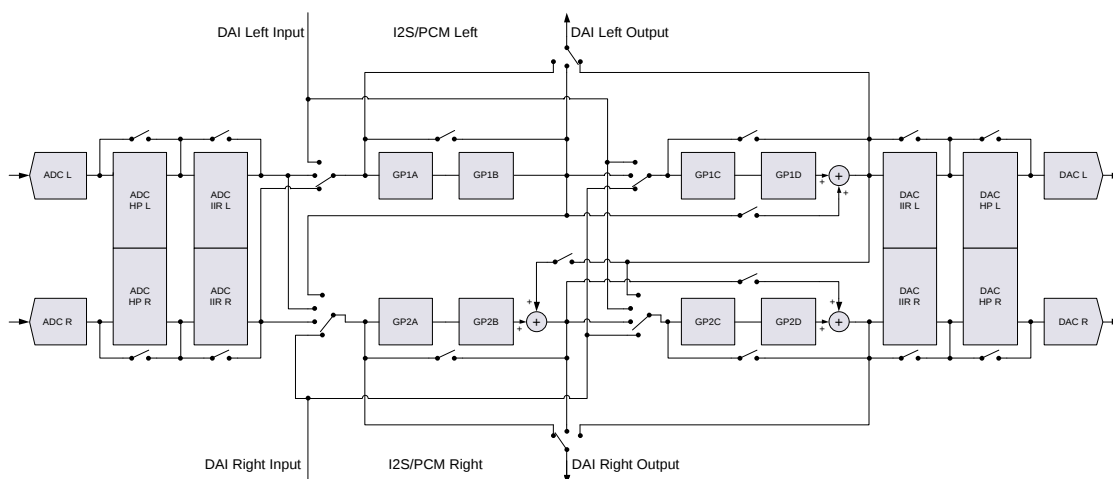

Figure 15: Digital Signal Processing Engine (Simplified Block Diagram)
A digital high pass filter for each DAC channel is implemented (configurable by control DAC_HPF_F0 (address 0x14, Table 56) that can be enabled via control DAC_HPF_EN (address 0x14, Table 56, see blocks 'DAC HP' in Figure 15). After Reset, the high pass filters for both channels are enabled by default.
The digital signal processing engine includes a configurable audio processor that offers flexible routing and extensive audio enhancement and effects. Linear phase FIR filters perform the interpolation and decimation for the required sigma-delta sample rates. Configurable high-pass filtering (optionally enabled) removes any signal DC offset (see blocks 'ADC HP' and 'DAC HP' in Figure 15) and offers 5-band equalisation during recording and sound playback.
Alternatively it can provide dedicated voice band filtering at sample rates ≤ 16 kHz (see blocks 'ADC IIR' and 'DAC IIR' in Figure 15).
An additional general purpose (GP) filter engine offers up to eight second-order biquad filter stages with configurable 16-bit coefficients, and supports flexible digital audio routing and mixing arrangements. Figure 15 shows some possible routings (a subset of the available settings) for filter blocks GP1A to GP2D with the related control registers. Typical use cases with example configurations are explained in the section 8.3.
To allow user-specific sound control, the recording path includes a programmable 5-band equaliser (combined in the ADC IIR blocks in Figure 15). This is enabled using control ADC_EQ_EN (address 0x13, Table 55).